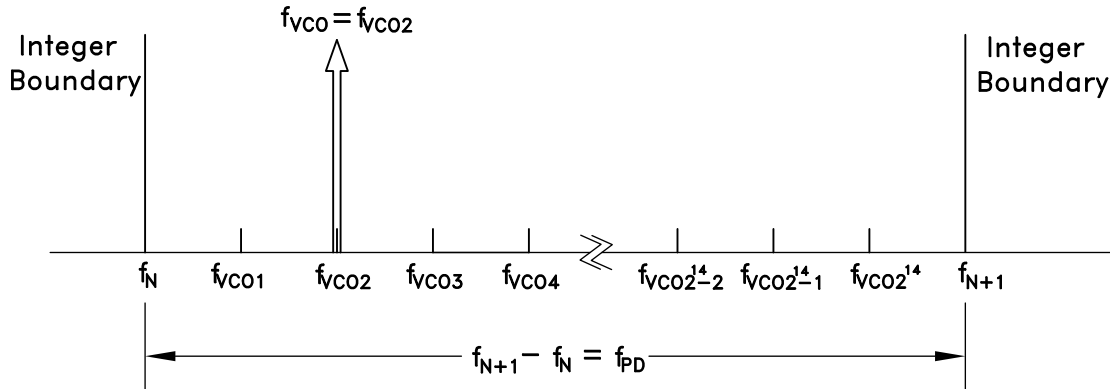

Figure 71. Exact Frequency Tuning
and f_{VCOk} are the channel step frequencies where 0 < k < 2²⁴-1, As shown in Figure 71.
Some fractional PLLs are able to achieve this by adjusting (shortening) the length of the Phase Accumulator (the denominator or the modulus of the Delta-Sigma modulator) so that the Delta-Sigma modulator phase accumulator repeats at an exact period related to the interval frequency ($f_{VCOk} - f_{VCO(k-1)}$) in Figure 71. Consequently, the shortened accumulator results in more frequent repeating patterns and as a result often leads to spurious emissions at multiples of the repeating pattern period, or at harmonic frequencies of $f_{VCOk} - f_{VCO(k-1)}$. For example, in some applications, these intervals might represent the spacing between radio channels, and the spurious would occur at multiples of the channel spacing.
If it is desirable to have multiple, equally spaced, exact frequency channels that fall within the same interval (ie. $f_N \leq f_{VCOk} < f_{N+1}$) where f_{VCOk} is shown in Figure 71 and $1 \leq k \leq 2^{24}$, it is possible to maintain the same integer-N (Reg 03h) and exact frequency register (Reg 0Ch) settings and only update the fractional register (Reg 04h) setting. The Exact Frequency Channel Mode is possible if EQ 16 is satisfied for at least two equally spaced adjacent frequency channels, i.e. the channel step size.
To configure the HMC1190ALP6NE for Exact Frequency Channel Mode, initially and only at the beginning, integer (Reg 03h) and exact frequency (Reg 0Ch) registers need to be programmed for the smallest f_{VCO} frequency (f_{VCO1} in Figure 71), as follows:
1. Calculate and program the integer register setting $\text{Reg 03h} = N_{INT} = \text{floor}(f_{VCO1}/f_{PD})$, where f_{VCO1} is shown in Figure 71 and corresponds to minimum channel VCO frequency. Then the lower integer boundary frequency is given by $f_N = N_{INT} \cdot f_{PD}$.
$\text{Reg04h} = N_{FRAC} = \text{ceil}\left(\frac{2^{24}(f_{VCOk} - f_N)}{f_{PD}}\right)$ where $f_N = \text{floor}(f_{VCO1}/f_{PD})$, and f_{VCO1} , as shown in Figure 71, represents the smallest channel VCO frequency that is greater than f_N .
4. To change from channel 1 ($f_{VCO1} = 2800.2$ MHz) to channel 2 ($f_{VCO2} = 2800.3$ MHz), only Reg 04h needs to be programmed, as long as all of the desired exact frequencies f_{VCOk} (Figure 71) fall between the same integer-N boundaries ($f_N < f_{VCOk} < f_{N+1}$). In that case